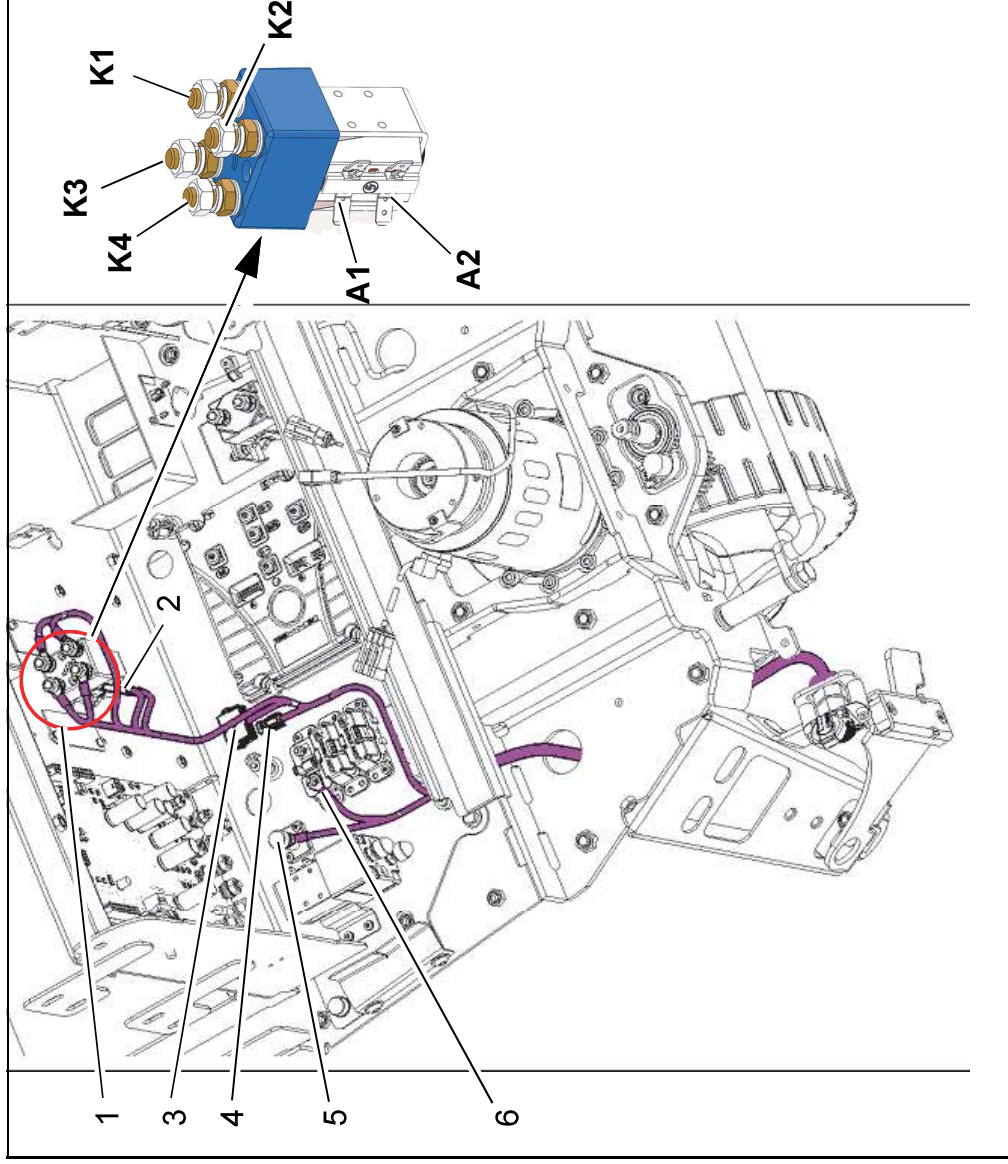

Fig. 6
1. Connect cable loom to relays K21/K1, K21/K2, K21/K3 and K21/K4 (Fig. 6/1).
2. Attach connectors to K21/A1 and K21/A2 (Fig. 6/2).
3. Attach 14-pin connector X22 to the connector of the same name of cable loom W3 (Fig. 6/3).
4. Attach 2-pin connector X23 to the connector of the same name of cable loom W3 (Fig. 6/4).
5. Make connection K01/K03 to single terminal X43/1 (Fig. 6/5).
6. Make connection to fuse F05/2/1 (Fig. 6/6).